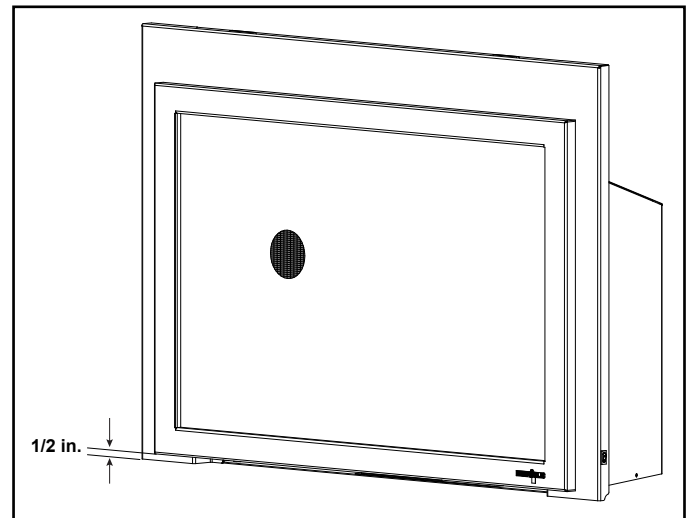

Figure 3.15 Minimum Required 1/2 in. Gap to Bottom of Front
- 1/2 inch gap under the bottom of the front must be maintained. See Figure 3.15.